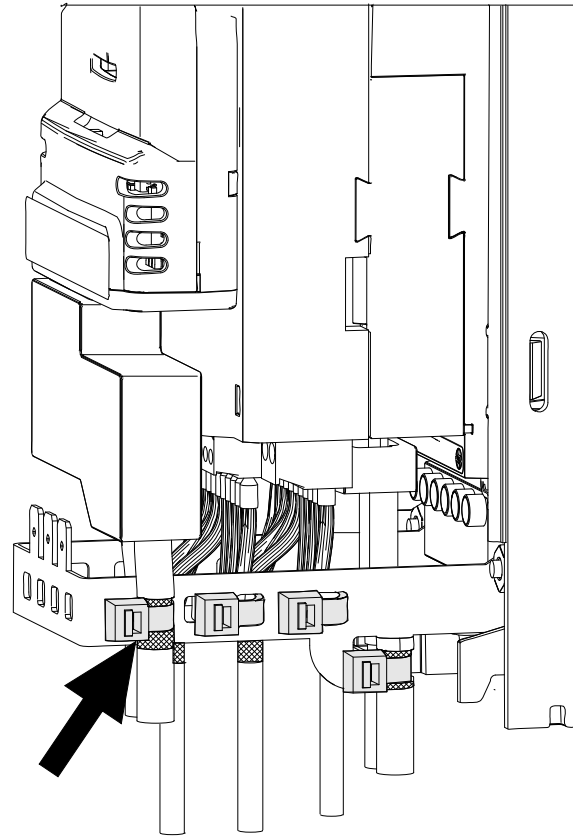

Figure 8: Earthing of signal cable screens using the grounding bracket
- Use shielded cables (one overall shield or separate shielded cables) and clamp the shield(s) to the grounding bracket provided, as shown in Figure 8.